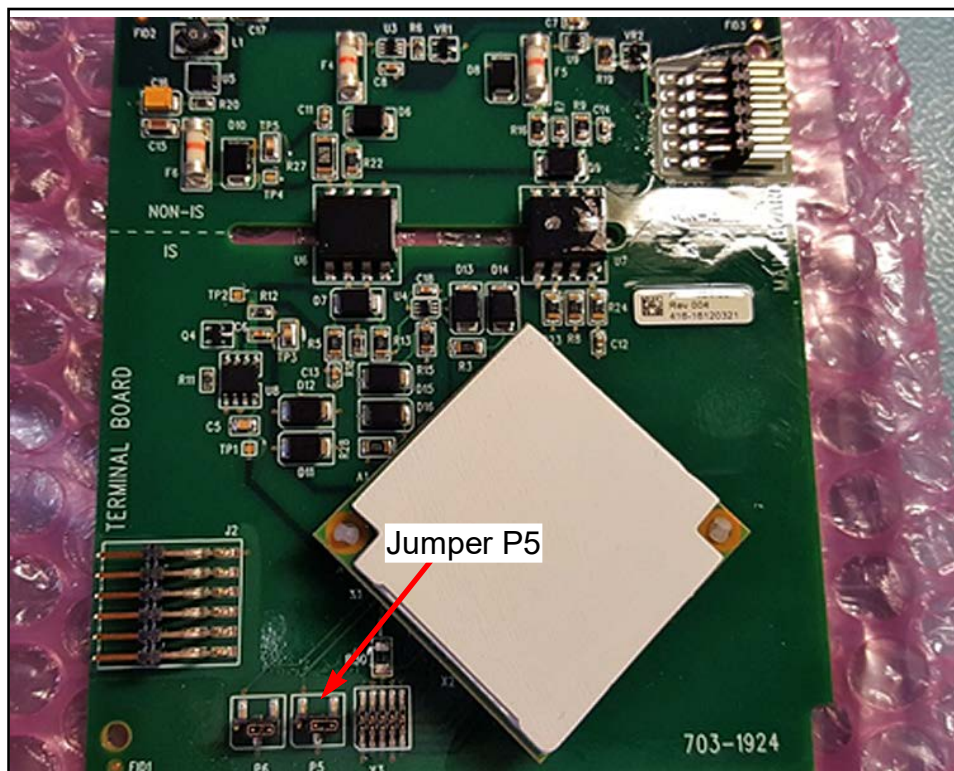

Figure 79: P5 on XMT1000 PCB
2. Locate the jumper **P5** (see *Figure 79* below).